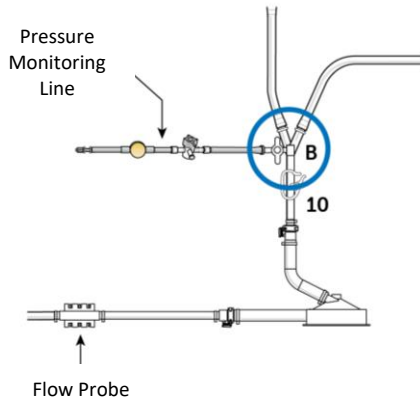

Figure 20
- (a) Attach pre-pump (to measure negative pressure – pump suction) pressure monitoring line to stopcock “B” and prime, see Figure 20.